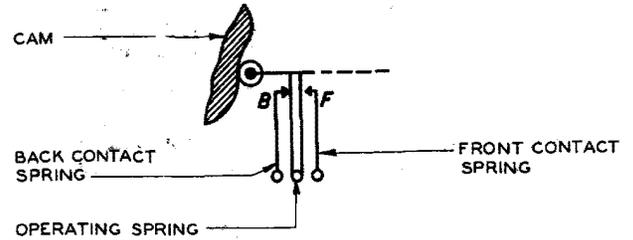

Fig. 104 – Contact Numbering on 149-, 152-, 160-, 161-, 164-, 165-, 166-, and 167-Type (reciprocating bar) Interrupters
4.10 149-, 152-, 160-, 161-, 164-, 165-, 166-, and 167-Type Interrupters (reciprocating bar type): Contacts closed when the interrupter is normal (cam roller resting on that portion of the cam cutting nearest the center of the cam) are back contacts and the back contact spring is designated B. Contacts closed when the interrupter is operated (cam roller resting on that portion of the cam cutting farthest from the center of the cam) are front contacts and the front contact spring is designated F. The operating spring is not designated. On switchhook spring combinations, two front contact springs are provided and these springs are designated F1 and F2, the F2 spring being farther from the operating spring. (See Fig. 104.)
4.12 The terminals of these networks are lettered, as indicated in Fig. 104, as viewed from the terminal end of the network. The C terminal is designated on the apparatus in cases where there are three terminals. The A terminal is located adjacent to the network code marking. The 184-, 185A-, and 186-type networks have no terminals and are wired directly to the apparatus. These leads and the terminals on the 180-type network are not designated.